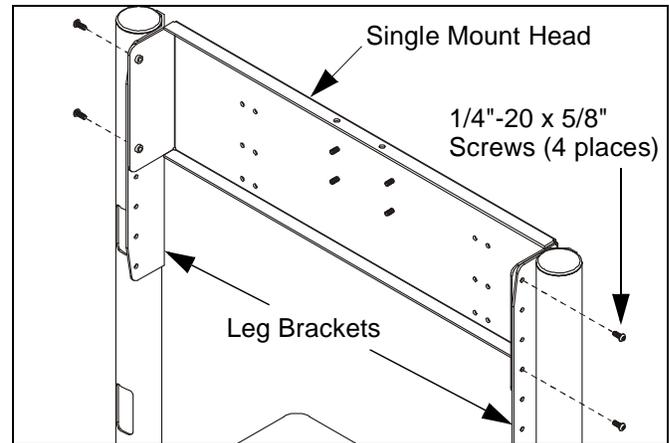

Figure 3: Remove Single Mount Head
3. Using hex key (60), remove four 1/4"-20 x 5/8" button head cap screws attaching single mount head to leg brackets (See Figure 3). Retain screws for later use.